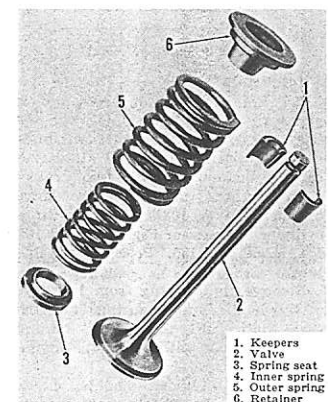

Fig. 99—Disassembled view of valve, showing correct positioning of springs and retainers.
101. Springs, retainers and locks are interchangeable for the intake and exhaust valves. Inner and outer springs are used as shown in Fig. 99. Springs may be installed with either end up. The inner spring (4) has a shorter assembled length than outer spring (5), due to the seating washer (3) and the machined step on spring retainer (6). Renew the springs if they are distorted, discolored, or fail to meet the test specifications which follow: